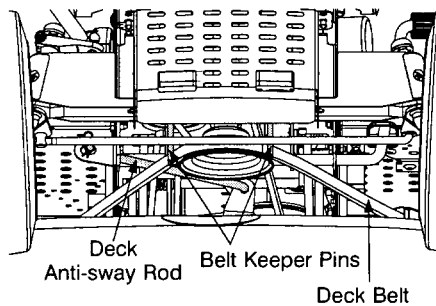

FIGURE 19
- Locate the two belt keeper pins, found on either side of the engine pulley, and use a 1/4-inch socket wrench to remove them from the lower frame. See Figure 19.